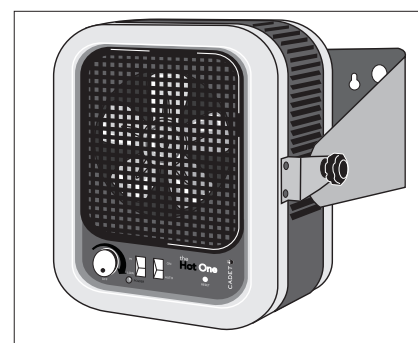

Figure 3
5. Heater must be kept clear of all obstructions: 3 foot minimum clearance from front, 6 inch minimum clearance from back and top, and 12 inch minimum clearance from sides. See Figure 3.
2. Mount stand in desired position on wall (See Figure 3). The wall and mounting hardware must be of adequate strength to support the heater. Note: A 240 volt receptacle must be within six feet of the heater.